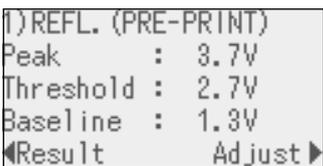

Figure 4. Calibration Results
5. Press the right key to see the details of the sensor type, peak voltage, threshold voltage and baseline voltage. Figure 4.